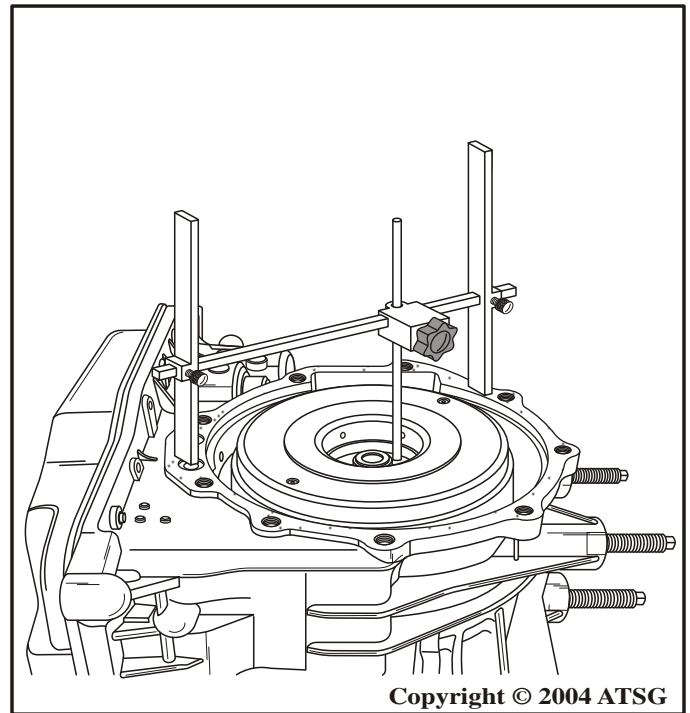

Figure 173
43. Install the "H" gauge onto the transaxle, as shown in Figure 173, adjust the center stem so that it rests on direct clutch housing bearing surface and tighten locking screw.